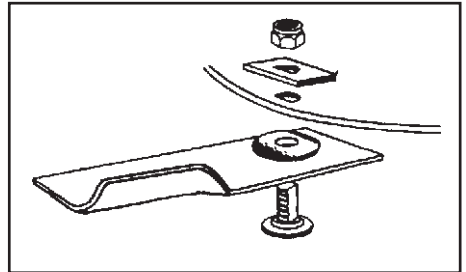

Figure 5- Blade and Fasteners
5. Fit new blades, blade bolts, washers and nuts in sets to maintain balance (Figure 5).